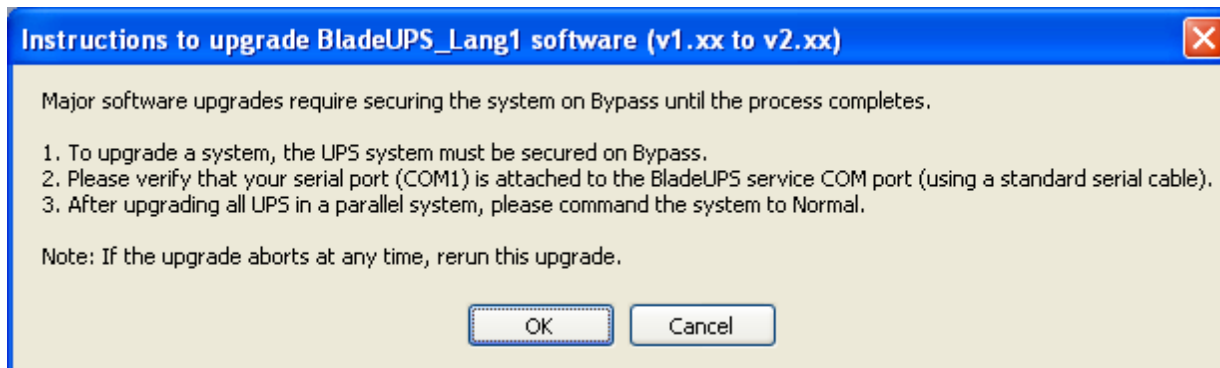
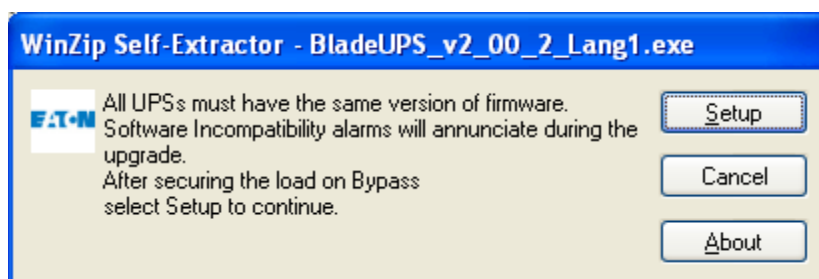

Figure 1 (Instructions Dialog Box Example)
Figure 2 (Start upgrade Dialog Box Example)
6. Double click the executable file from Windows Explorer to start the upgrade. If the flash process fails, restart the program by double clicking the executable file again. Figure 1 represents the dialog box presented when the program is run. Select the OK button. Figure 2 represents the dialog that reminds you that parallel systems must all have the same firmware version. Select the Setup button.
7. When the upgrade is complete, (typically 5 to 8 minutes per UPS) the UPS will return back to the mode that it was in when the firmware update was started so either on internal bypass, HE mode, or in a UPS off state. Each module in a system will take approximately 60 to 90 seconds to return to HE (normal) operation after giving the “success” message, and closing the upgrade window after the firmware upgrade is complete. Upgrade the remaining modules by repeating steps five (5) and six (6).